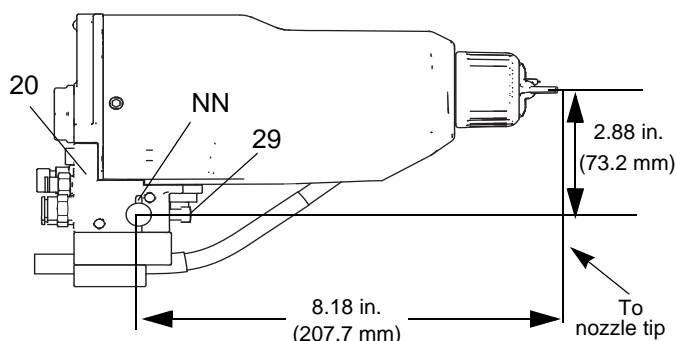

FIG. 4 Mounting Bracket
1. Loosen the manifold's two set screws (29) and slide the manifold (20) onto a 1/2 in. (13 mm) mounting rod.
NOTE: For added positioning reliability, insert a 1/8 in. (3 mm) locating pin into the slot (NN) in the bracket and through a hole in the rod. See the detail in FIGURE 4.